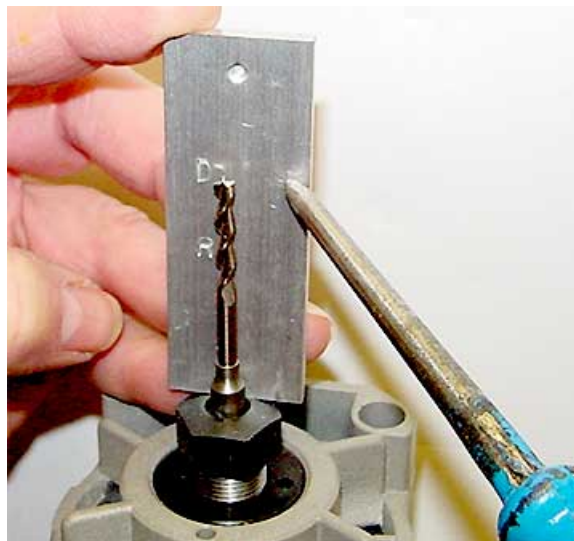

Fig 26
5. Replace the bit. A Bit Gauge is provided to record your preferred Router Bit Height. Once a preferred setting is selected, mark or scribe your settings on the aluminum plate. ("R" Router) **See Fig 26.**
5. Replace the bit. A Bit Gauge is provided to record your preferred Drill Bit Extension. Once a preferred setting is selected, mark or scribe your settings on the aluminum plate. ("D" Drill) **See Fig. 26.**